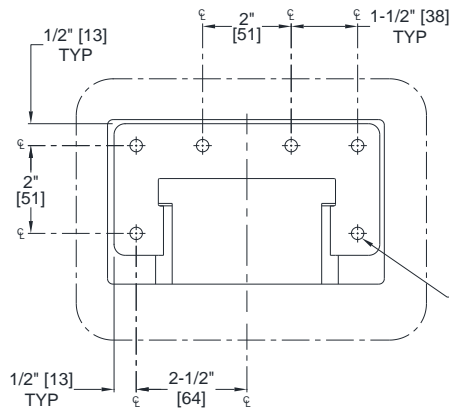
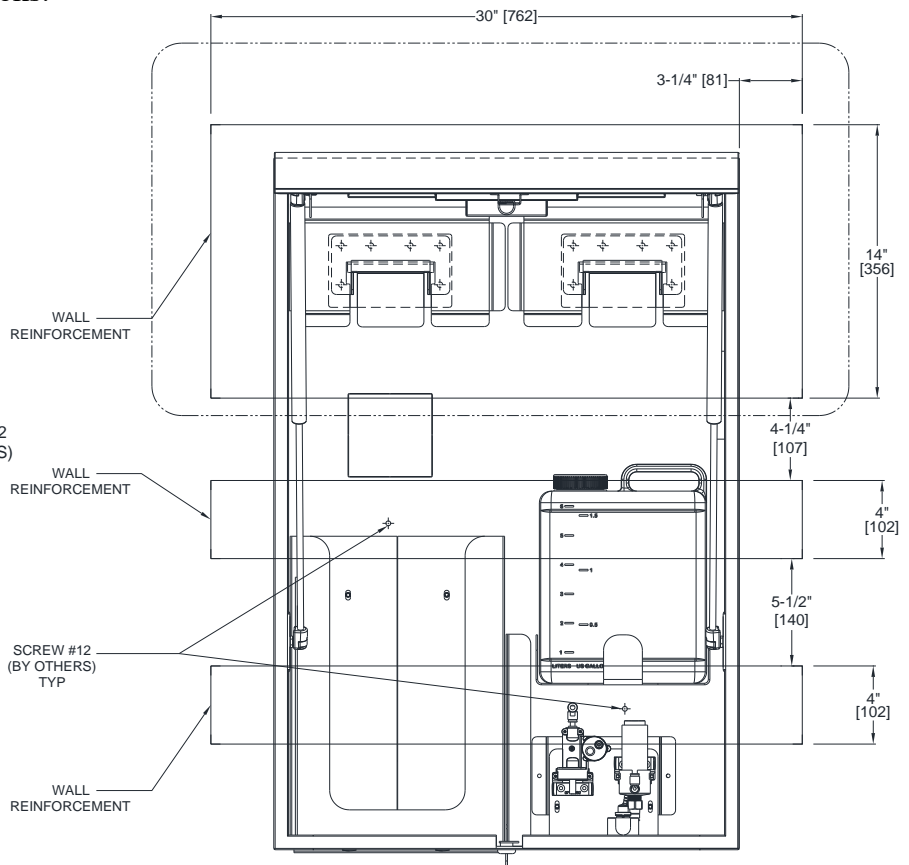
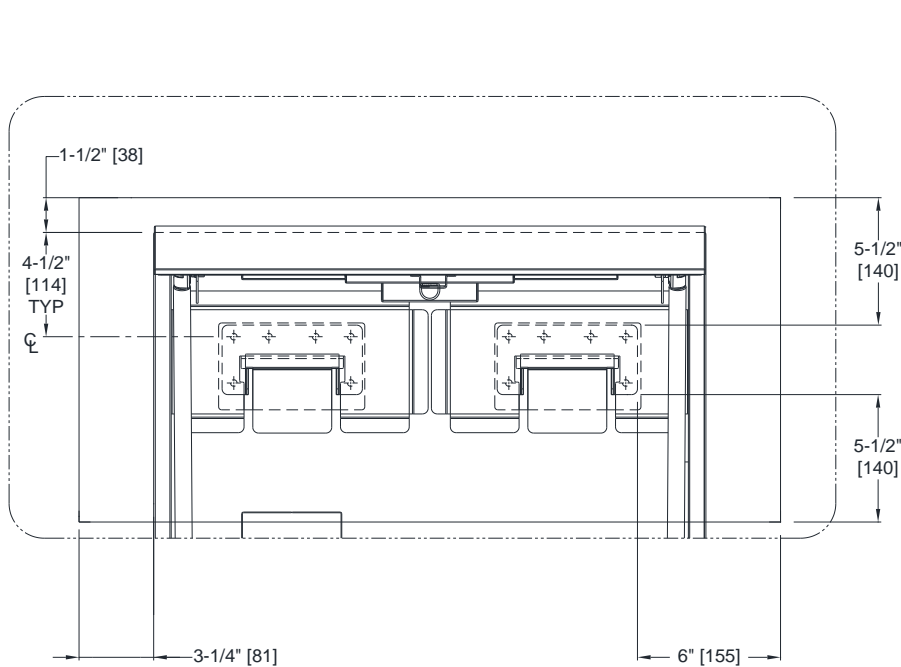
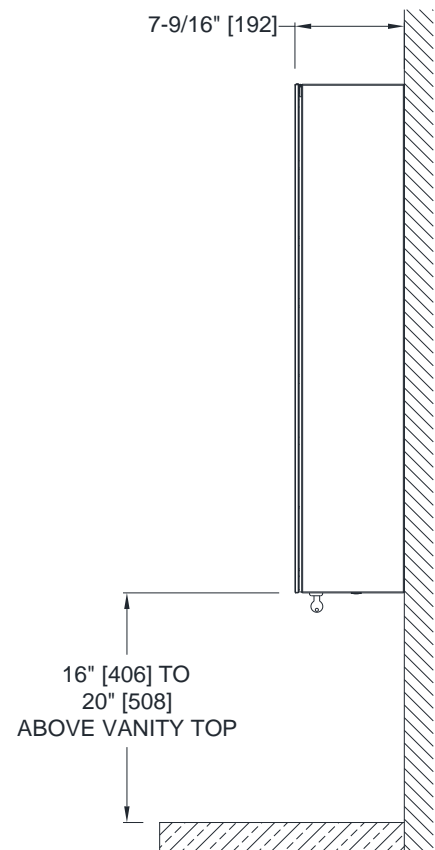

FIG. 1
FIG. 2
FIG. 3
FIG. 4
Appropriate wall reinforcement and AC duplex outlet must be prepared prior to initiating the Velare™ BTM System installation (see Fig. 2 for blocking reference and Fig. 5 for Electrical KO location). Install the two (2) wall mounting hanger hooks located in the interior of the module on wall using twelve (12) № 12 self-threading, pan-head screws (by others) (Fig. 1) into appropriate wall reinforcements (Fig. 2). Hang the cabinet on wall mounting hanger hooks (Fig. 3). Suggested mounting height is to position bottom of module 16" [406] to 20" [508] above vanity top (Fig. 4). Power can be provided to the interior of module through the Electrical Service KO for duplex outlets located at the back of the cabinet.